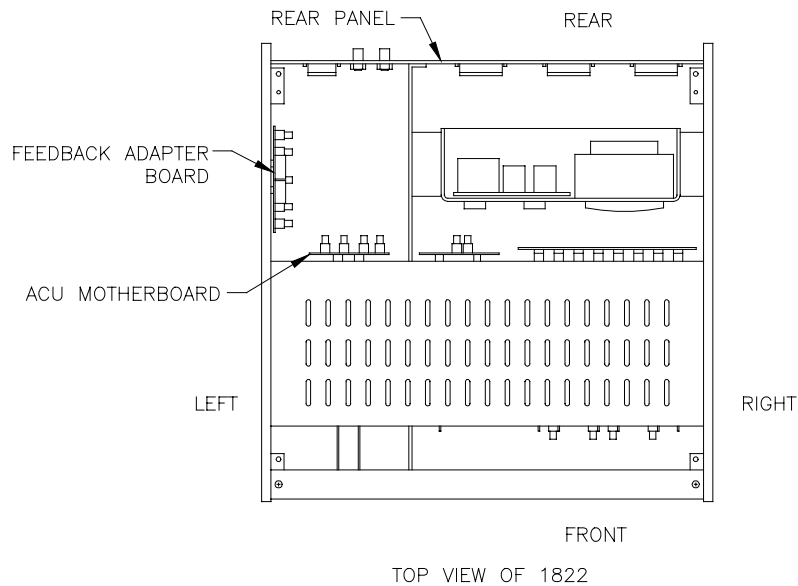
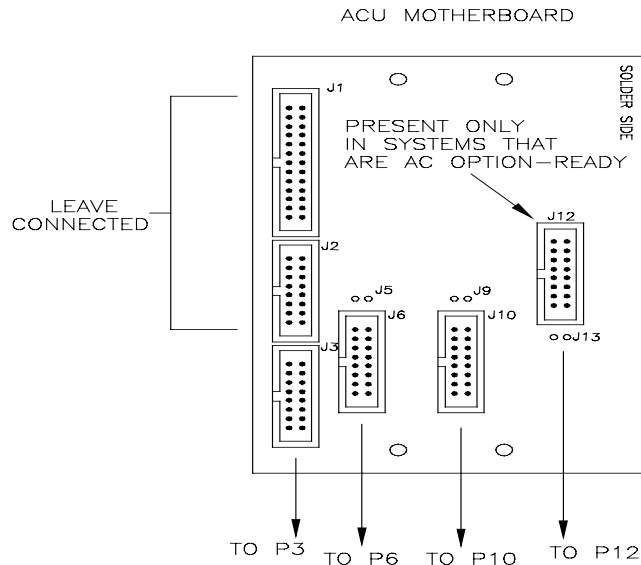
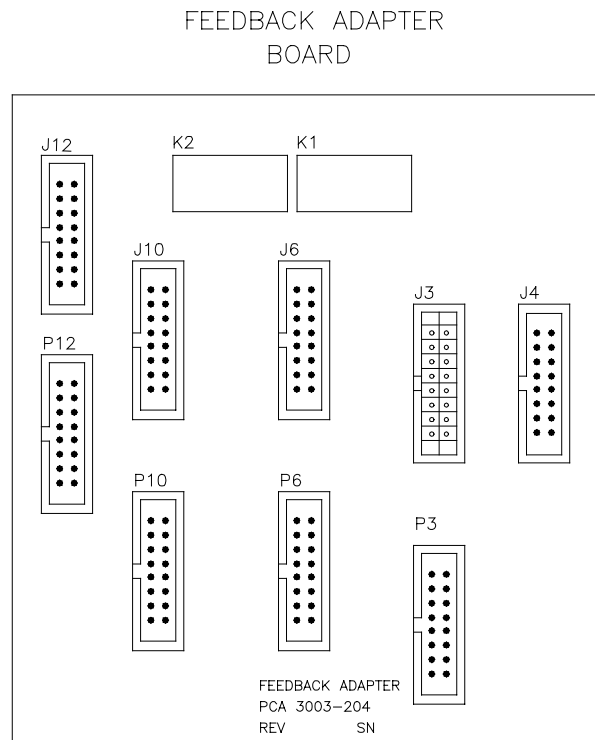

Figure 4. Top view of the 1822.
Figure 6. The ACU Motherboard.
Figure 7. RSO feedback adapter board.
3. Locate the feedback adapter board of the 1822 in **Figure 4**.
10. Remove the ribbon cable from the J12 connector (**Figure 6**) on the right side of the ACU motherboard (next to the RSO feedback adapter board (**Figure 4**)).
11. Connect the RSO feedback adapter board P12 connector to the ACU motherboard J12 connector with the ribbon cable supplied (part number 3003-208). See **Figure 6** and **Figure 7** for the board layouts. **Figure 8** displays all the cabling on the ACU motherboard and the feedback adapter board.
22. Disconnect all of the ribbon cables from the ACU motherboard **except** for the two uppermost connectors on the left-hand edge of the board, J1 and J2 (**Figure 6** or **Figure 8**).